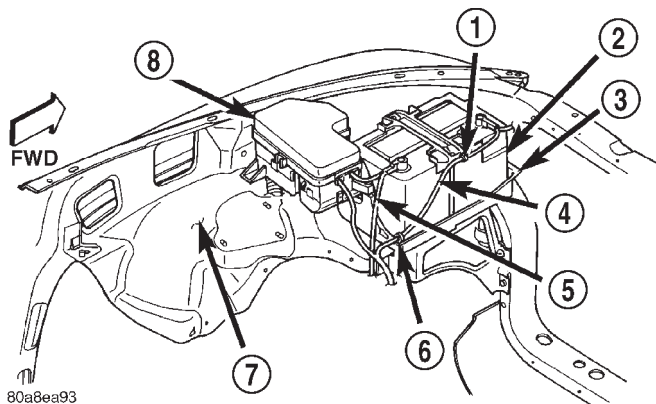

Fig. 3 Power Distribution Center
(1) Disconnect and isolate the battery negative cable.
(2) Remove the cover from the Power Distribution Center (PDC) (Fig. 3).